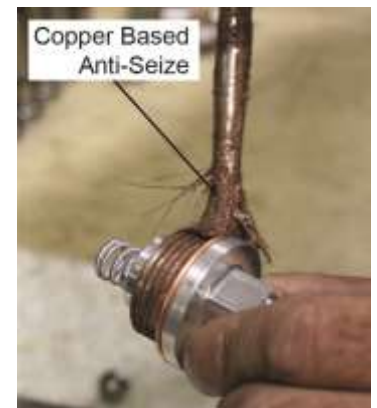

Figure 6
- C. Apply Copper-Based Anti-Seize to the threads of the oil pressure relief valve as shown in Figure 6.